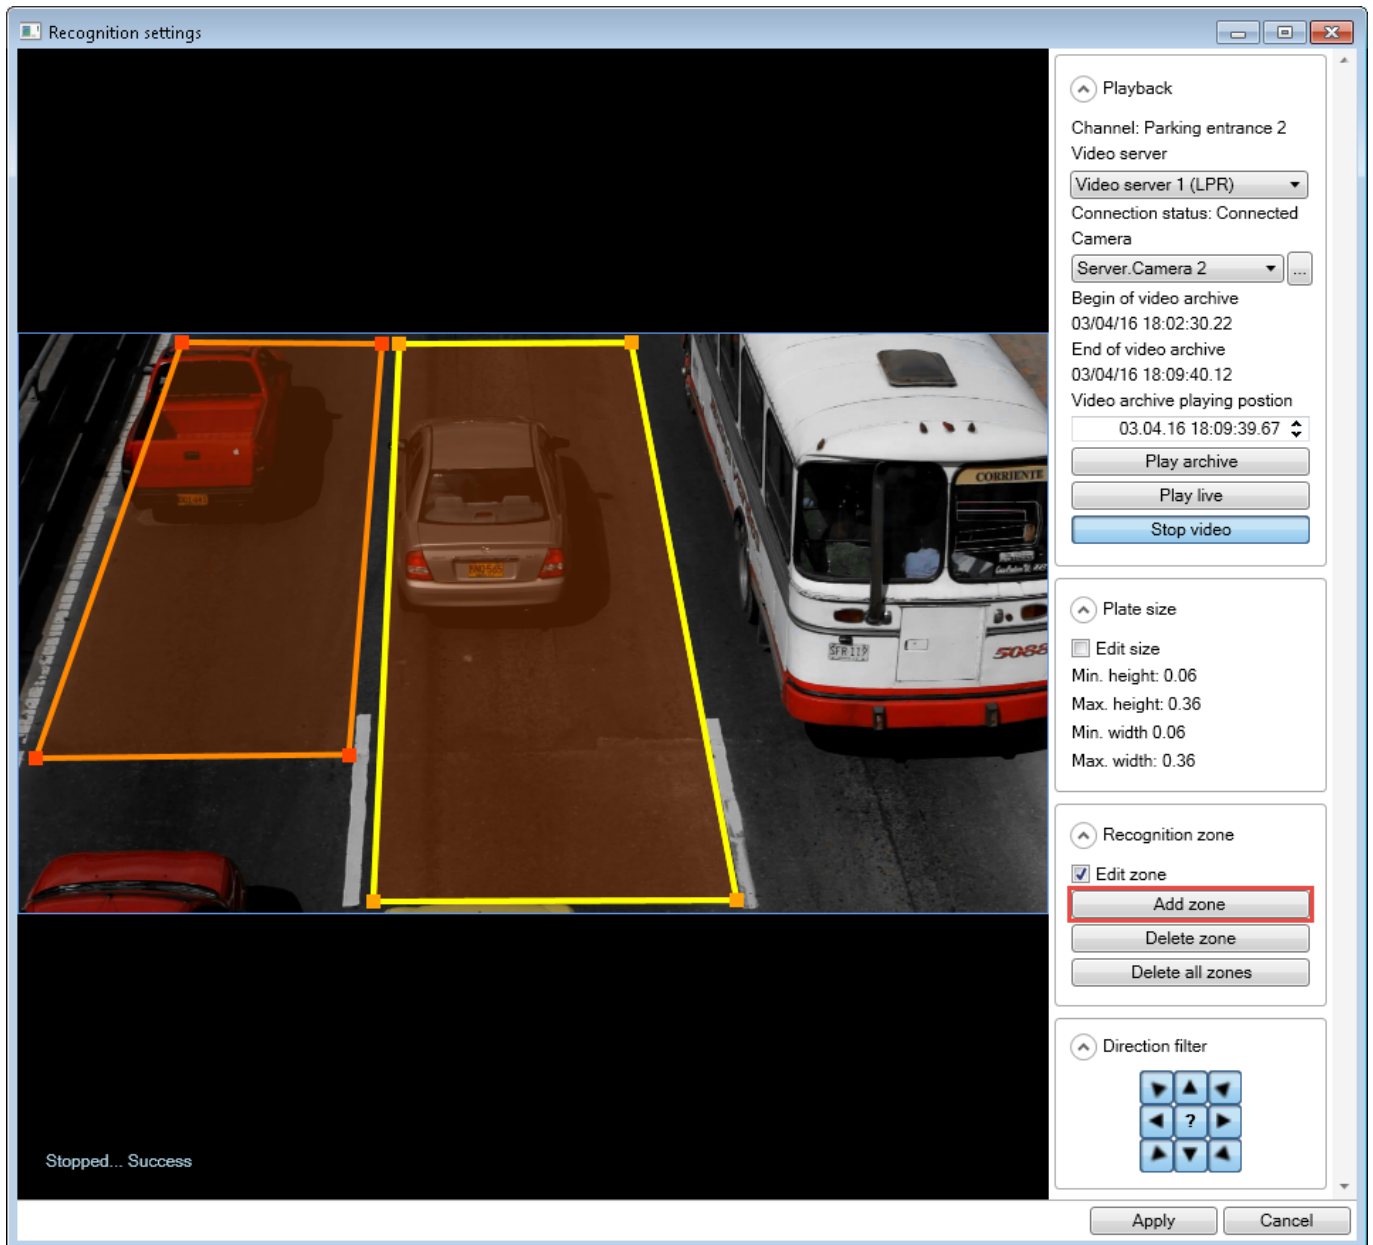

Figure 6: Creating multiple recognition zones
1. Select the **Edit zone** checkbox in **Recognition settings** window (1).
2. Click the **Add zone** button (2).
4. Click **Add zone** button again to create additional recognition zone (if needed) (Fig. 6). Adjust the newly created area as described in Step 3 above.